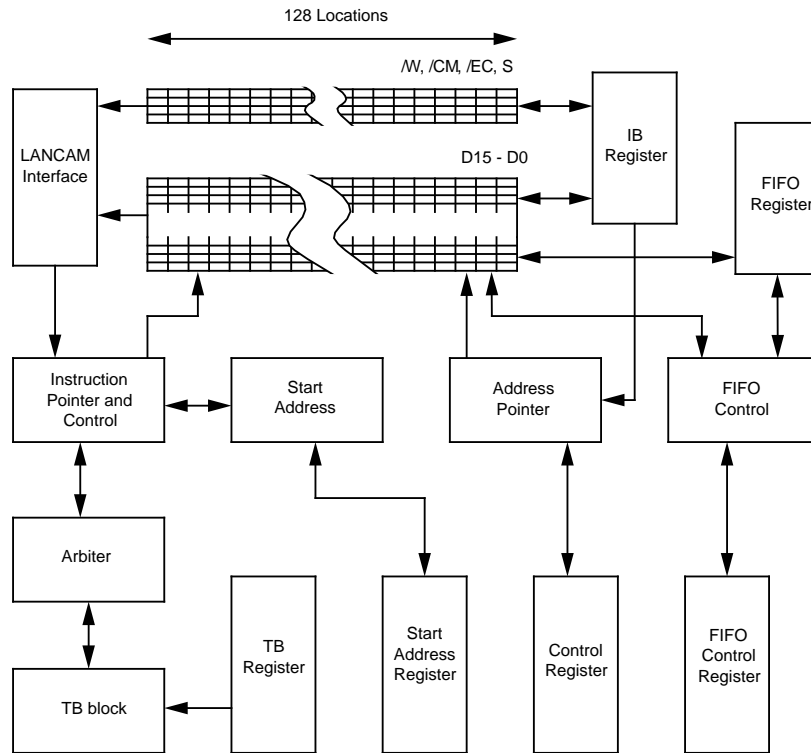

Figure 1: The Instruction Buffer
The Instruction buffer (IB) shown in Figure 1 consists of the following: the 128-entry Instruction storage, the Instruction pointer (IP), the Address pointer, the Start address registers, the FIFO, and FIFO control registers.